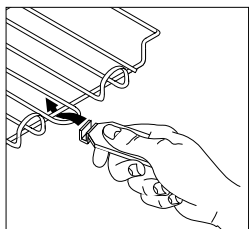
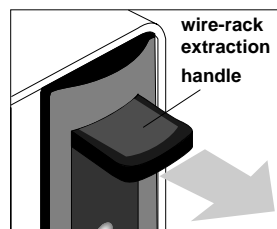

Fig. 4
Fig. 5
To avoid being burnt when removing heated pastries, extract wire racks about half-way out using the supplied handle (G) (fig. 4). To remove handle from its housing on the front panel, pull gently (fig. 5).
- 1) Remove (G) handle from its housing on the panel (fig. 5). Pull hook H (see diagram) outwards so that handle-spring pops up.